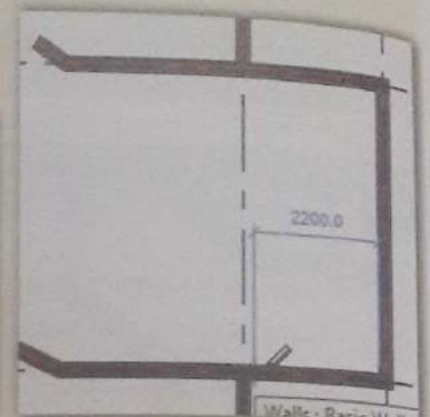

Figure 77: Splitting Wall.
9. Repeat the same for opposite wall also (Figure 77).